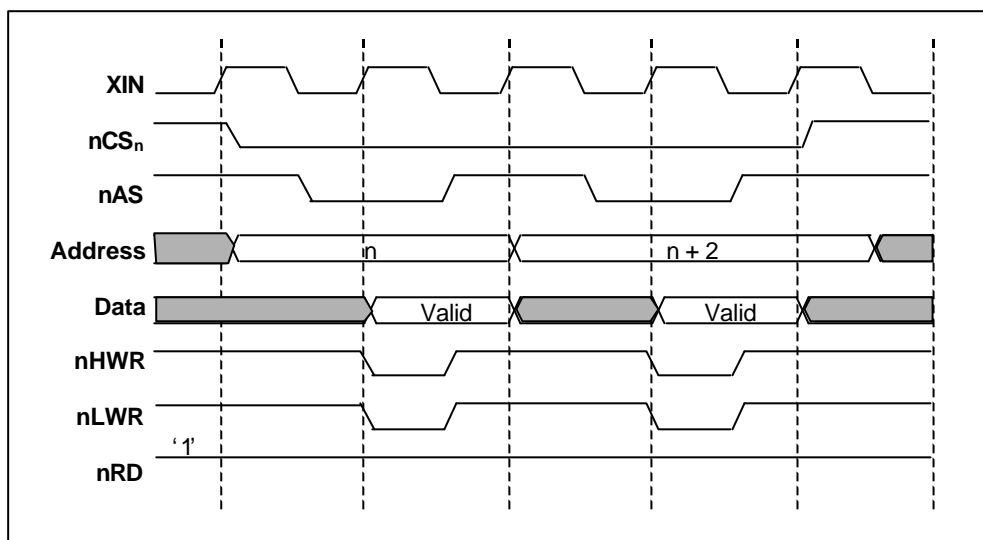
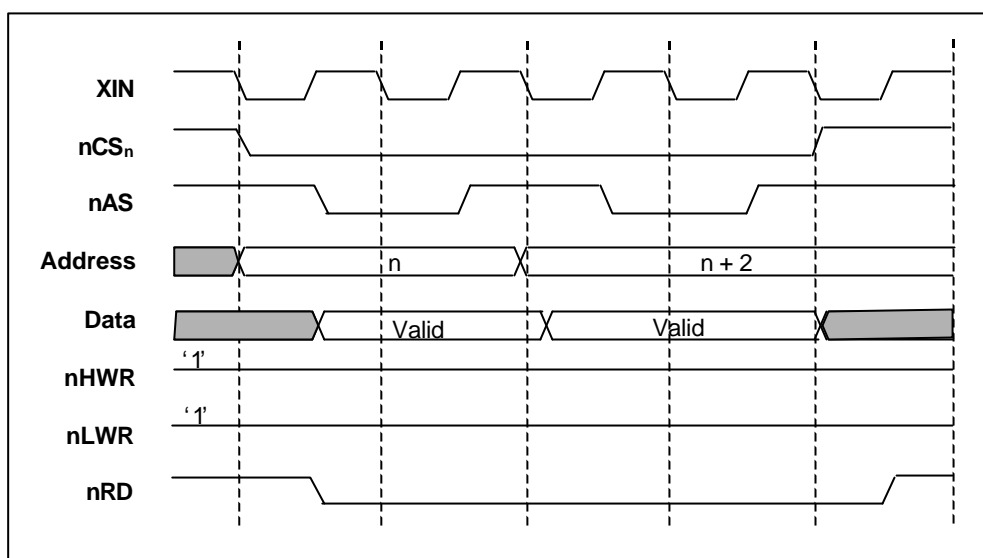

Figure 3.5 Bus Control Signal Write Timing for 16-Bit, 1-Wait (Word Access)
Figure 3.6 Bus Control Signal Read Timing for 16-Bit, 1-Wait (Word Access)
**16-Bit 1-Wait-Access Areas:** *Figure 3.5* shows the write timing of bus control signals for a 16-Bit 1-wait-access area (in case of 32-bit word access). *Figure 3.6* shows the read timing of bus control signals for a 16-Bit 1-wait-access area (in case of 32-bit word access). In this case the NormWait value in **BCR** of this area is '0'.